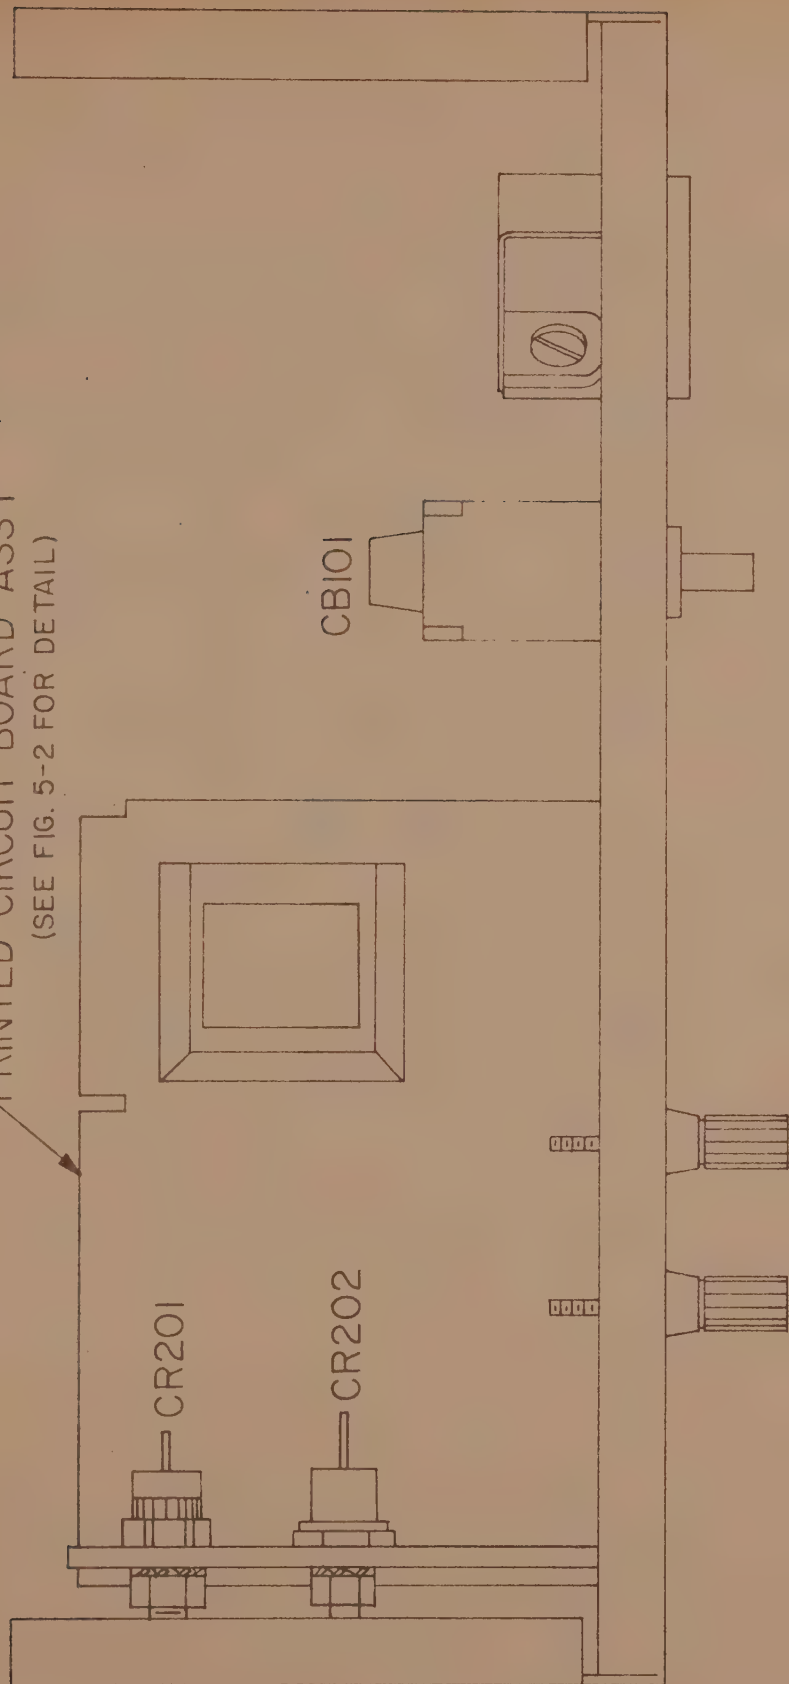

FIG. 5-2 COMPONENT LOCATION, MAIN CHASSIS
- 5-2 Conservative component rating and uncongested layout in the Kepco Overvoltage protectors should keep maintenance problems to a minimum. If component failure should take place however, all parts are easily accessible and quickly identified by means of the component location drawing (FIG. 5-2) and the parts list (Section VI).
(SEE FIG. 5-2 FOR DETAIL)